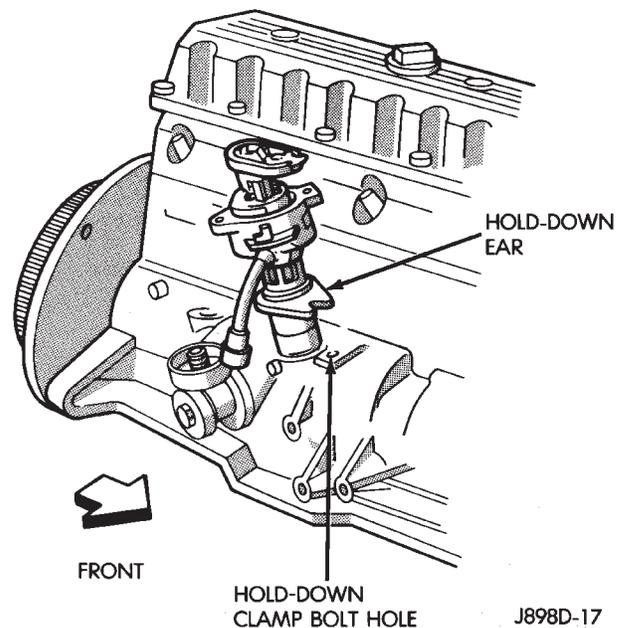

Fig. 18 Distributor Installation—Typical
(4) Install the rotor.
(5) Without engaging the distributor gear into the cam gear, position the distributor into the hole in the engine block. Be sure the distributor gasket is installed.
(6) Visually line up the holddown ear of the distributor housing with the holddown clamp hole (Fig. 18).